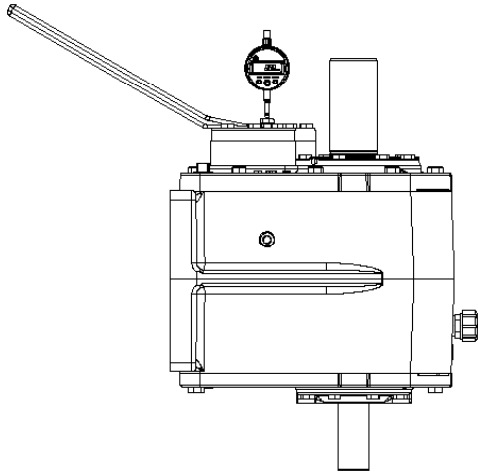

Figure 5 - End-play Check Setup
3. Install the backstop outer key (5) into the backstop carrier (1) and coat the bore with a thin film of oil.
4. Coat the backstop spacer (3) with a thin film of oil and insert into the reducer housing bore.
6. The backstop carrier (1) will be mounted with the dowel hole on the reducer side. Do not install dowel at this time. Install the backstop (4) into the carrier with the rotation arrow pointing in the desired direction of free rotation. Ensure that the parts are not tilted relative to each other. Lightly tap the backstop outer edge until it slides freely in the bore. Do not use excessive force.
9. Gently slide the backstop (4) and carrier (1) onto the shaft stub and into the housing bore while rotating the shaft in the overrunning direction. Shaft can be rotated via input shaft. Do not use excessive force during assembly.
11. Install the backstop cover (2) using 4x M10 x 1.50 cap screws (7). Tighten to 27 lb-ft torque.
12. Insert one M10 x 1.50 cap screw (7) through the backstop cover into the tapped hole in shaft. Snug cap screw to remove clearance in threads. Rotate and lightly tap cap screw to seat lower bearing.
13. Mount magnetic base dial indicator on housing with plunger on cap screw head parallel to shaft axis. Set indicator to zero. Pry under cap screw (6) head to measure bearing end-play. Bearings need to be adjusted to have 0.001 inches—0.003 inches end-play. Reference Figure 5.
9. Gently slide the backstop (5) and carrier (1) onto the inner race and into the housing bore while rotating the shaft in the overrunning direction. Shaft can be rotated via input shaft. Do not use excessive force during assembly.
11. Install the backstop cover (2) and four M12 x 1.75 cap screws (7). Tighten to 47 lb-ft torque.
12. Insert M10x1.5 cap screw (6) through cover and engage in tapped hole in shaft. Tighten cap screw (6) until there is just enough clearance on the bolt hex head to fit a pry bar underneath. Rotate the input shaft and lightly tap cap screw (6) to seat lower bearing before taking measurements.
13. Mount magnetic base dial indicator on housing with plunger on cap screw (6) head parallel to shaft axis. Set indicator to zero. Pry under cap screw (6) head to measure bearing end-play. Bearings need to be adjusted to have 0.001 inches—0.003 inches end-play. Refer to Figure 5.